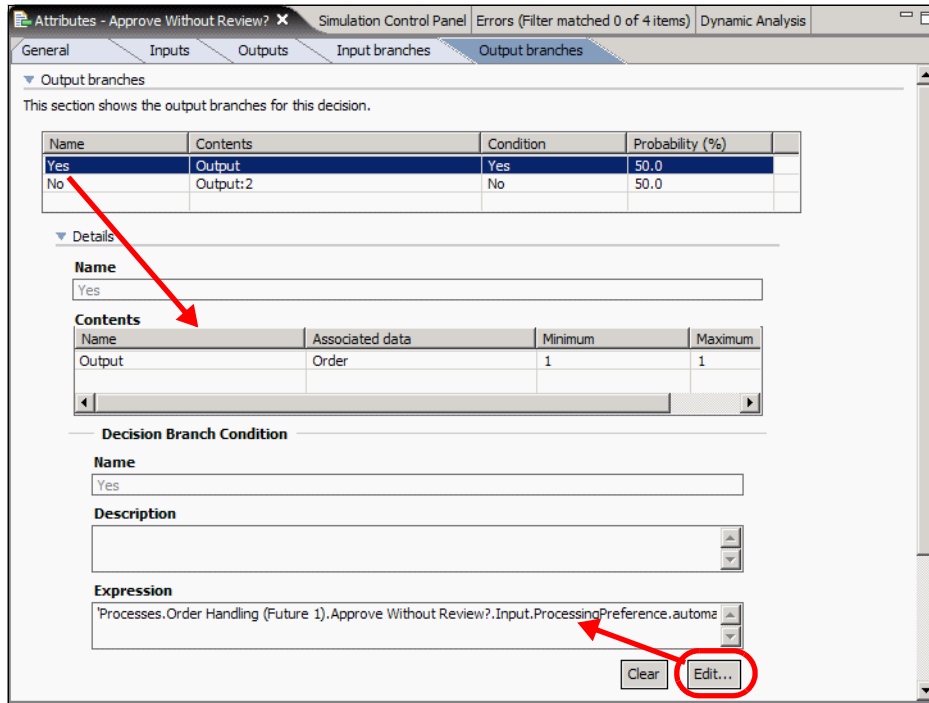

Figure 7-18 Approve without Review decision (Output Branches tab)
- ▶ Select the *Output Branches* tab and select the *Yes* condition (Figure 7-18).